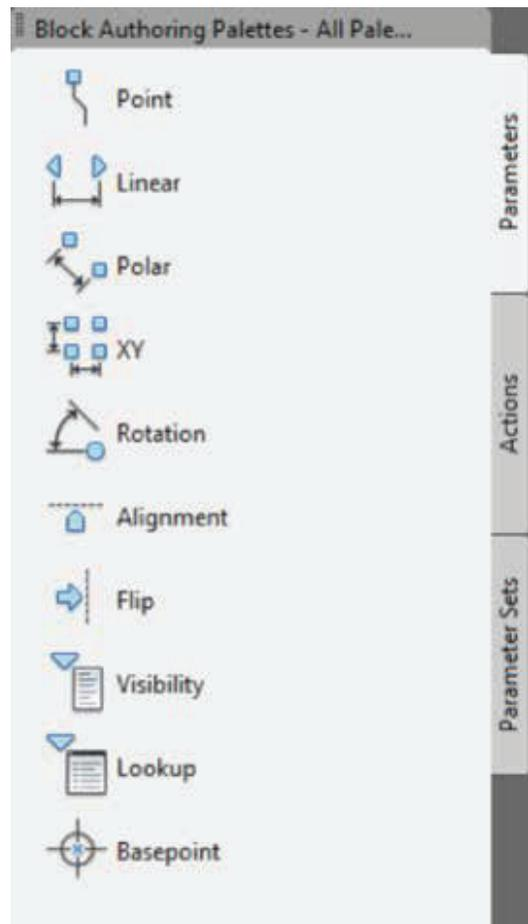

Figure 2
3. Choose a Parameter. There are various parameters to choose—see Figure 2 for a screenshot of the dynamic options palette and the descriptions of each option we will be covering.
When entering the block editor, you will get the dynamic options palette shown in Figures 2 and 3, and the block editor toolbar or palette shown in Figures 5 and 6. As stated above, my first step is going to make the outlet represent either a duplex or quad outlet, and to do this I will use the Visibility option off the dynamic block palette.